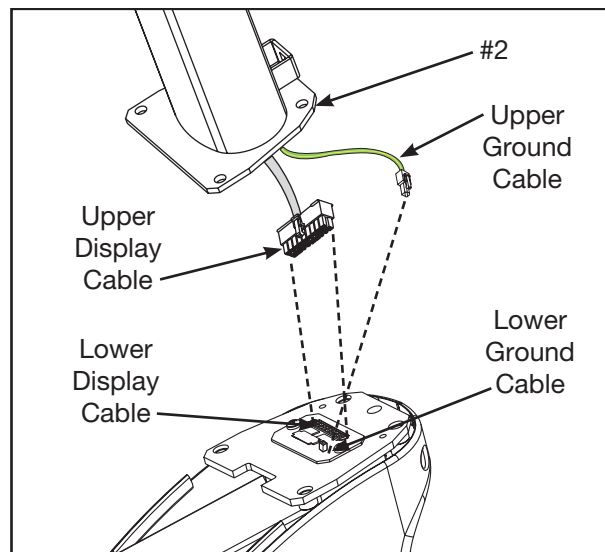

Figure 5
- B. Locate the upper display cable and plug it into the lower display cable in the main frame assembly. See Figure 5.
- C. Locate the upper ground cable and plug it into the lower ground cable tab on the main frame assembly. See Figure 5.